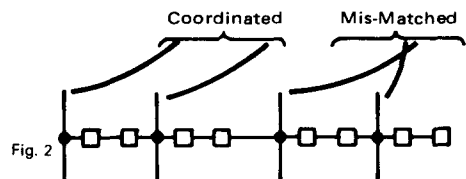

Fig. 2
**Coordination With Adjacent Relays:** To assure selective operation, relays in all sections of the protected line should have similar operating curves. Otherwise, curves may intercept, resulting in incorrect relay operation. See figure 2.